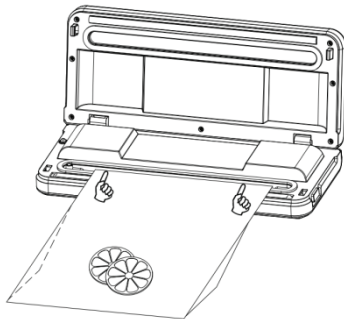

Figure 2
4. Open the upper lid, put the open end of the bag into the Vacuum Chamber of the appliance (usually 3-5mm beyond the Vacuum Chamber wall) to ensure that the bag is airtight and both sides of the open end of the bag align (as shown in Figure 2);